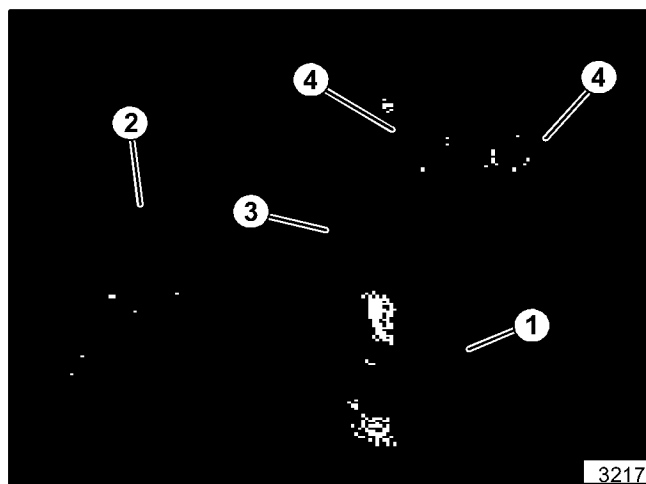

Figure 33. Disassembled Transmission
5. Remove the gears, shafts and spacer. Also remove the bearings and grease seals (see figure 33).